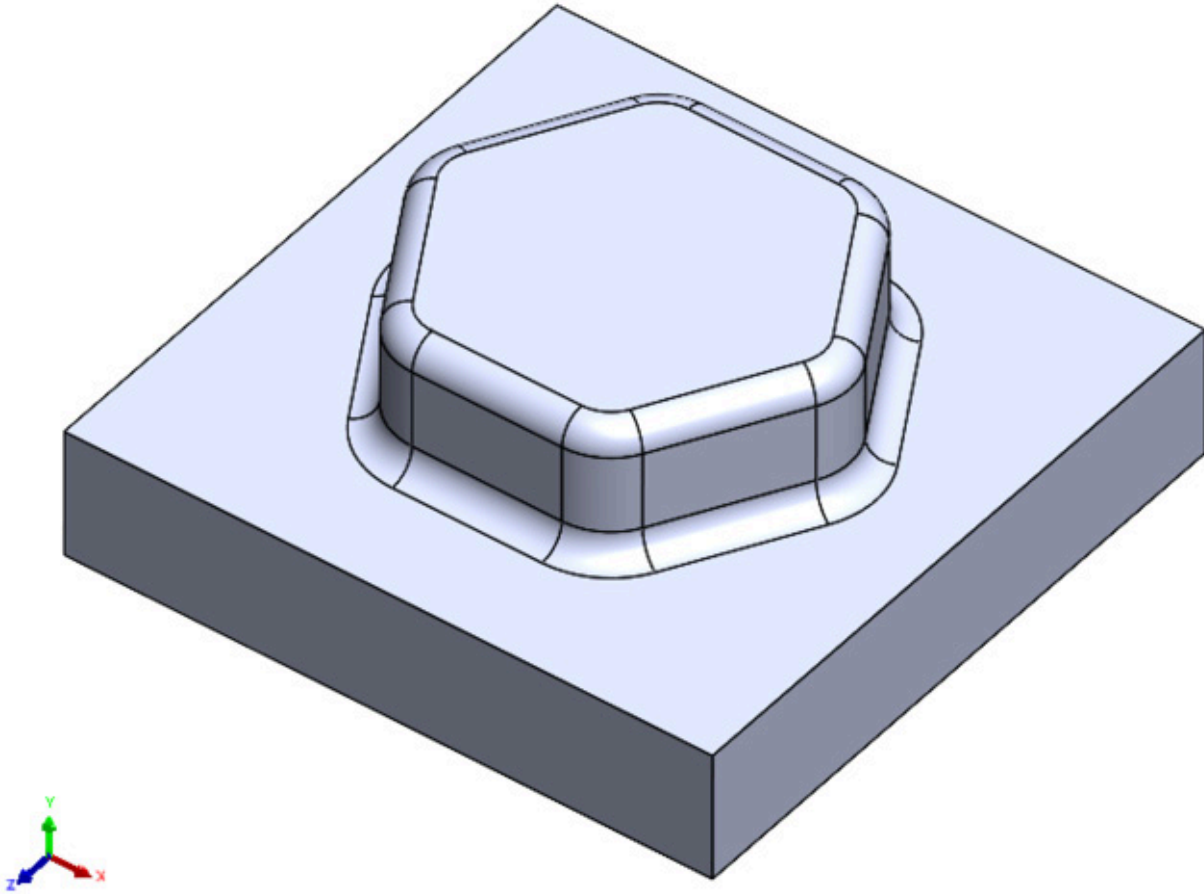

Figure 10.15: Adding Fillets to remove sharp edges
5. Next, add a **2mm** Fillet to both the top and bottom edges of the hexagon, as illustrated in *Figure 10.15*. Note that creating an initial base that was larger than the tool shape now allows us to easily add the lower Fillet. Without the base, it would be much more difficult to create the lower, filleted edge: